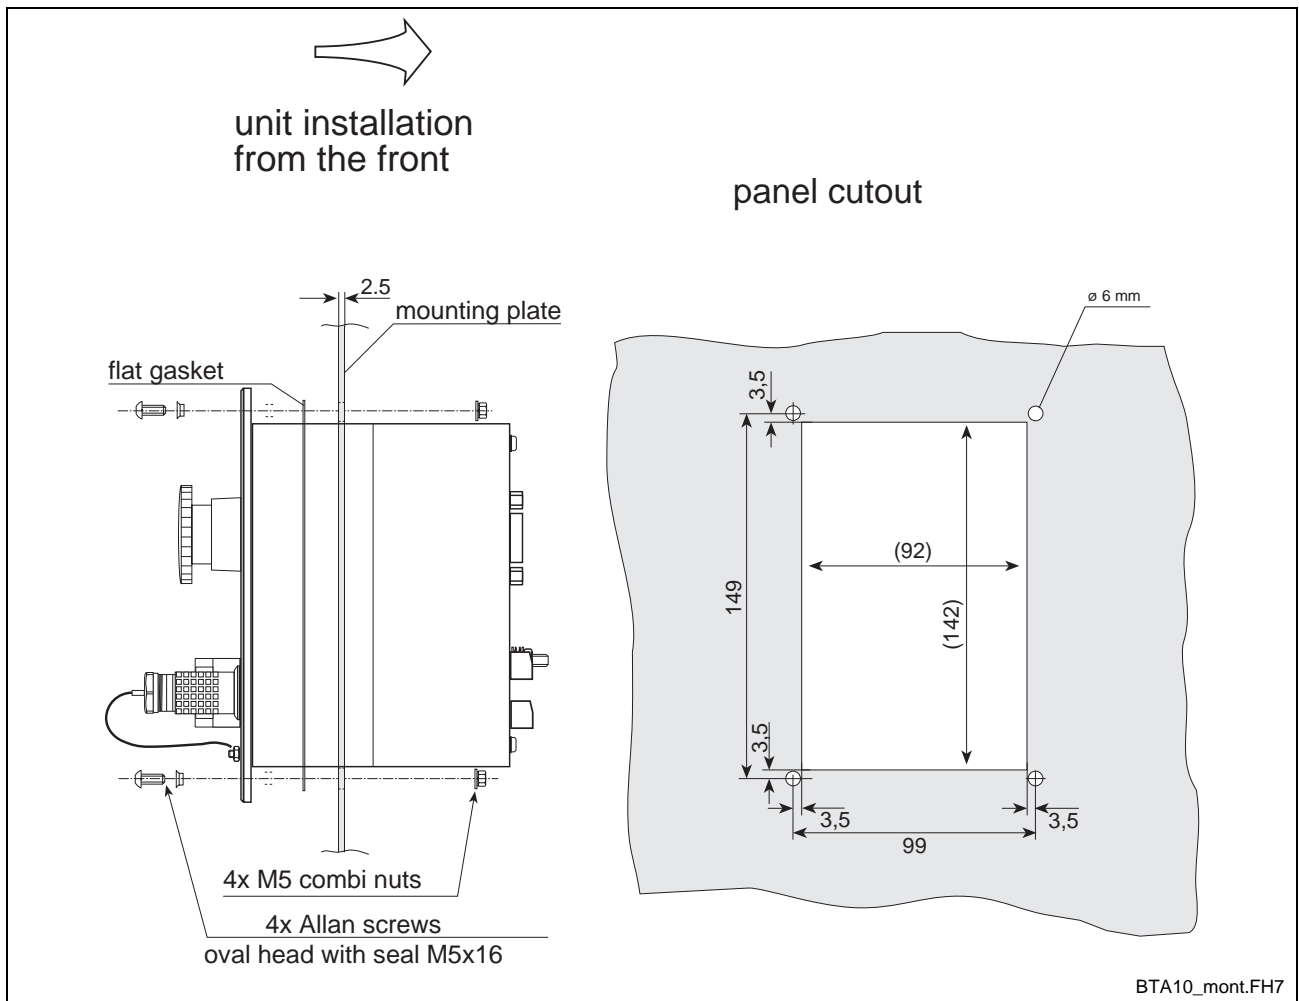

Figure 5-2: Mounting dimensions
- Figure 5-2: Mounting dimensions 5-2